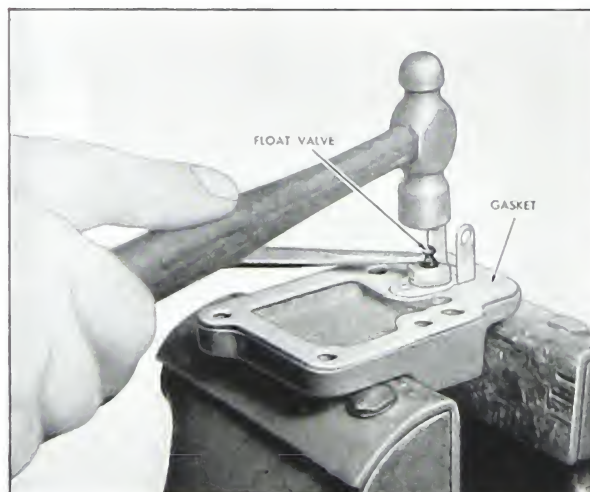

Fig. 5-99. Seating float valve
6. Make sure the float valve is free of burrs and in good condition. Drop it into place and seat by tapping lightly with a small hammer while holding a screwdriver against the shoulder of the float valve. Fig. 5-99.